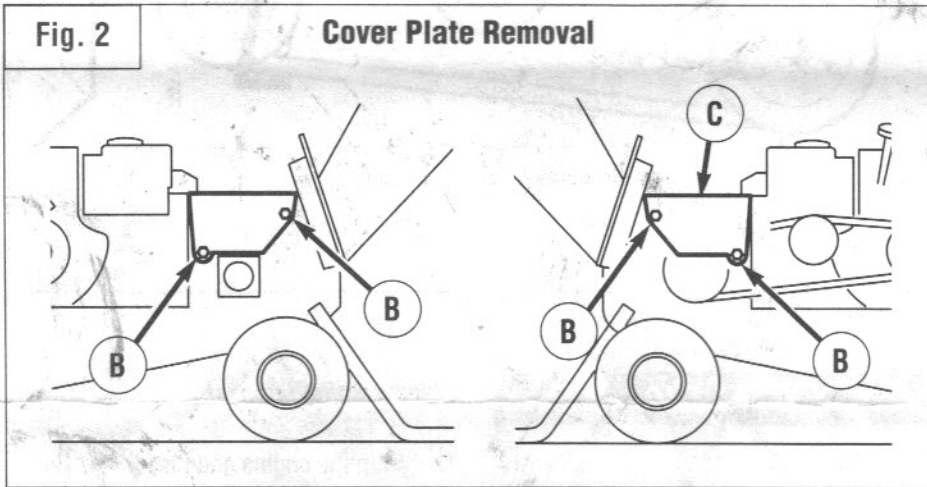
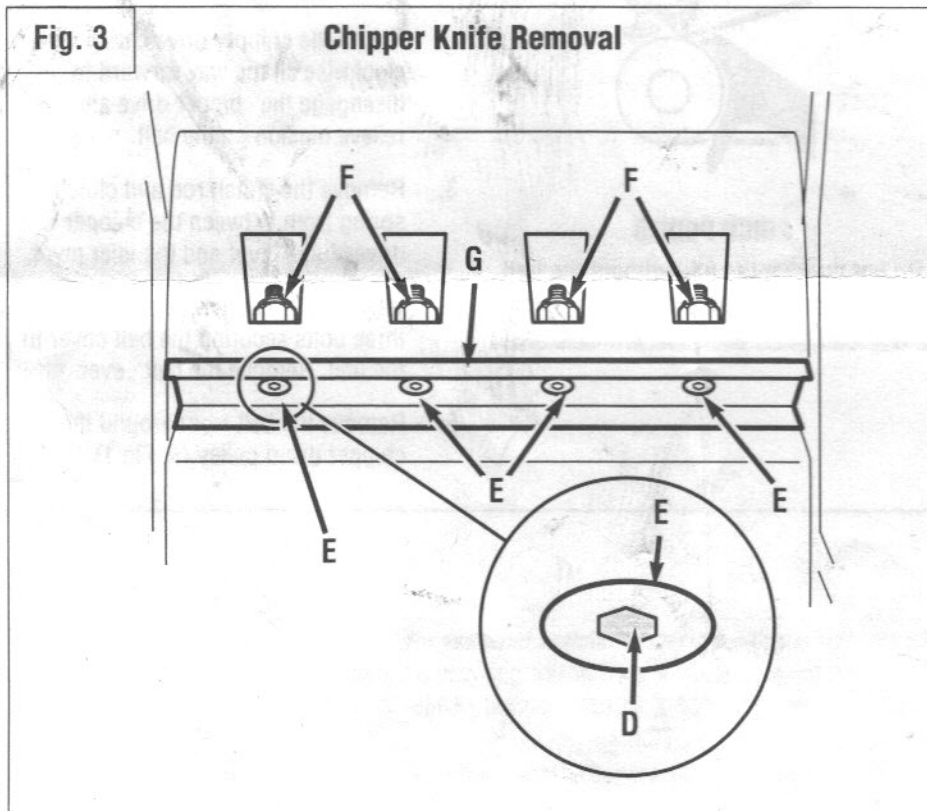
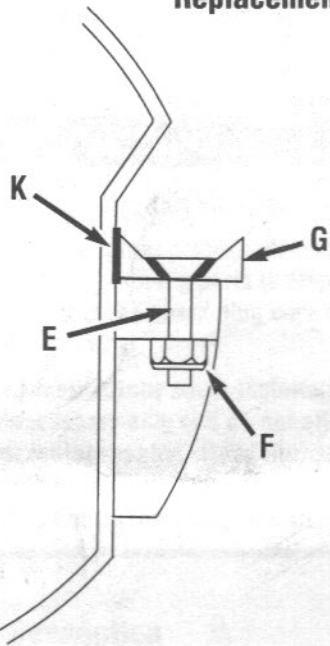

Fig. 3
Fig. 4
Fig. 5
- Clean out the hex bolt holes (D, Fig. 3).
- With a 5/32" hex wrench and a 1/2" socket, remove the socket head screws (E) and nuts (F) securing the chipper knives (G) to the chipper drum.
- Carefully remove the chipper knives (G) from the unit.
- Carefully clean the chipper knife seats (K, Fig. 4) on the chipper drum, before securing the knives to the chipper drum. If this surface is not clean, the knives will not lay flat, and damage to the unit and poor chipping performance could occur.
- Position the new chipper knives (G, Fig. 3) in place into the chipper drum.
- Secure the chipper knives (G) with the new socket head screws (E) and nuts (F), supplied in the kit. Torque the bolts and nuts to 10-12 ft. lbs (14-16 Nm).
- Adjust the anvil (J, Fig.5) .010" – .040" (.25 – 1mm) away from the chipper knife cutting surfaces. Use a feeler gauge when measuring.
- Adjust the anvil at nuts (L, Fig.5). Tighten the nuts securely after adjusting.
- When adjusting the anvil (J), measure at both ends, to ensure the distance is equal all the way along the surfaces of the anvil and the knives.
- After adjustment, spin the chipper drum to check for interference between the chipper knives (G, Fig. 5) and the anvil (J).
- The anvil (J) can be reversed and turned over, when the edge becomes dull or rounded.